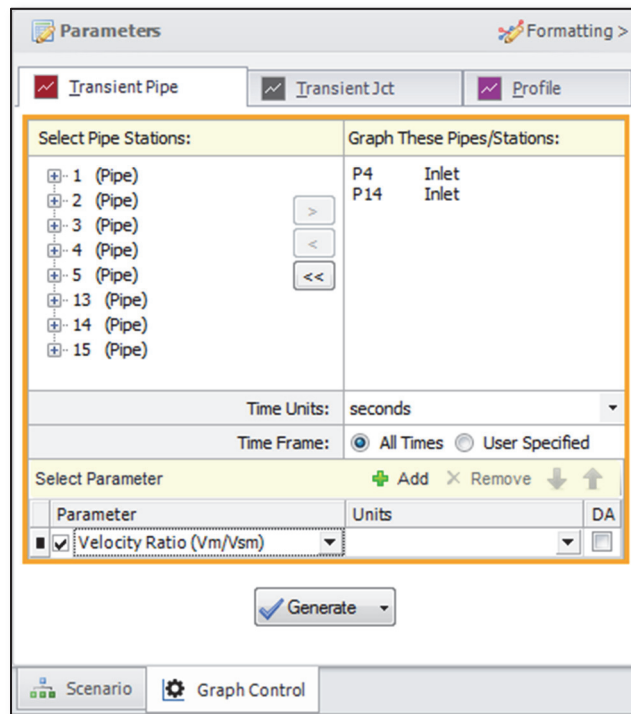

Figure 6.7 Data selection to view the velocity ratio over time
2. On the Transient Pipe tab, select Pipes P4 Inlet and P14 Inlet and add them to the pipe stations to graph (Figure 6.7). These are the two sloped pipes which have the lowest velocity ratio.